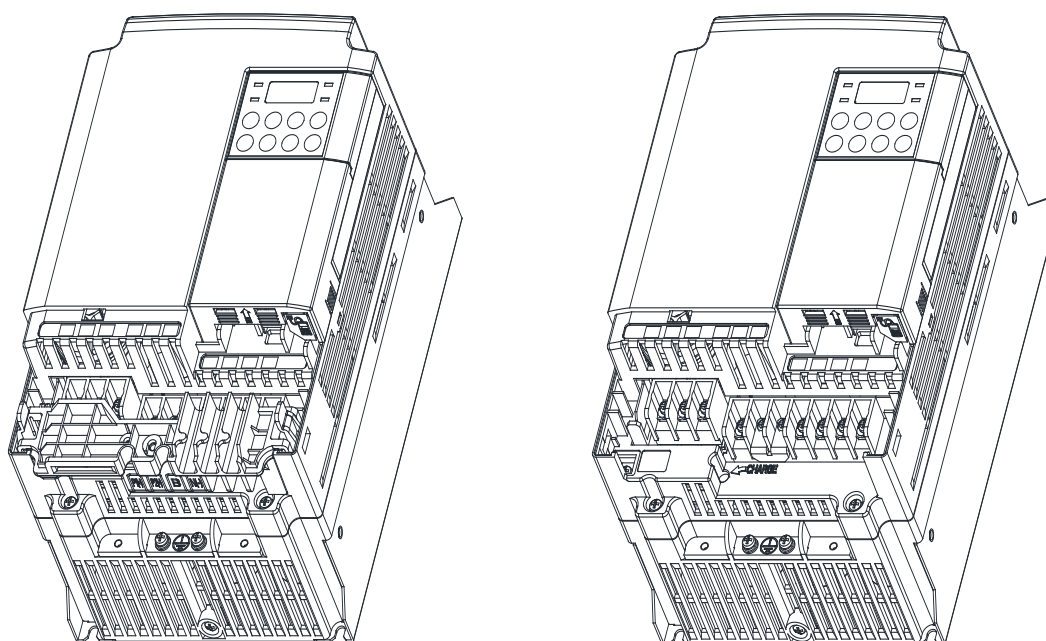

Figure 4. Remove Power Cover and CABLE Guide
- ① Remove the Power cover and cable guide of the product as shown in the Figure 4.